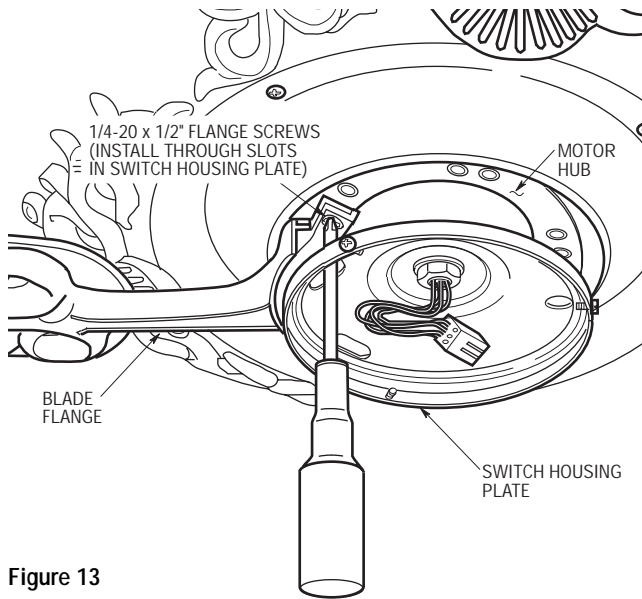

Figure 13
- 16. Rotate the motor hub until the flange screw holes are visible through the slots in the switch housing plate. Loosely attach one blade assembly to the motor hub using two 1/4-20 x 1/2" flange screws (Figure 13). Make sure the screws are NOT tightened. Repeat this procedure for the other four blade assemblies.